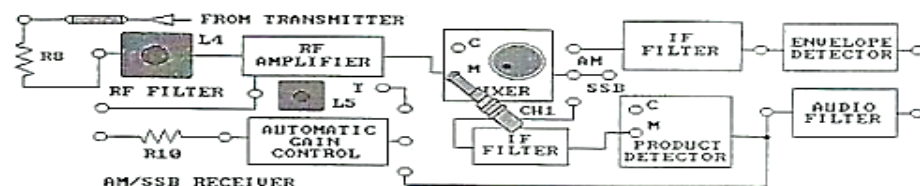

Figure 5-10.
18. With a two-post connector, connect the TRANSMITTER to the 1 M Ω resistor (R8) at the AM/SSB RECEIVER circuit block. (Refer to Figure 5-10.)